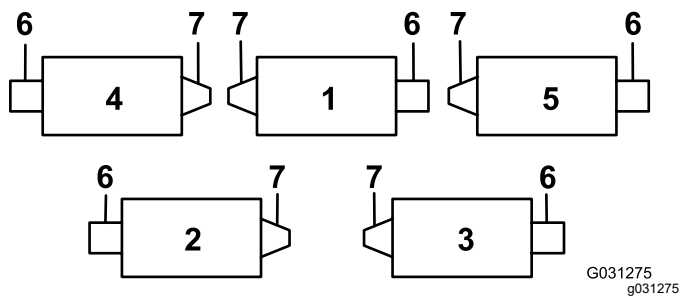
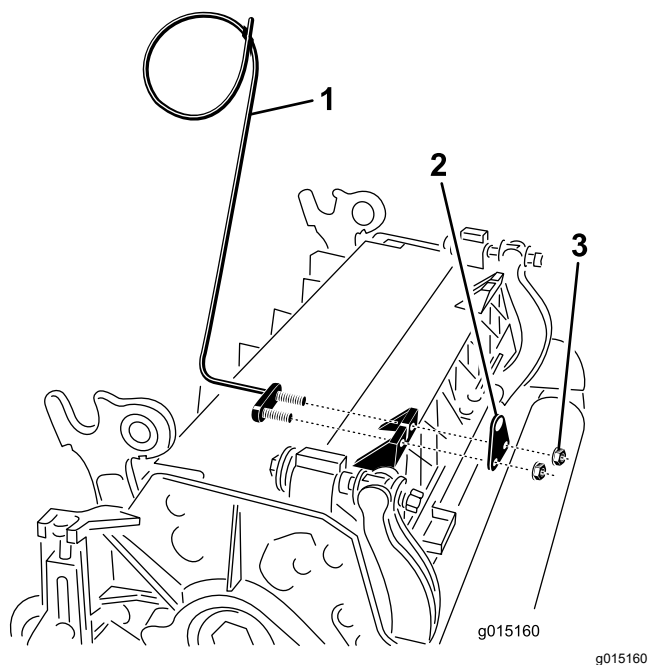
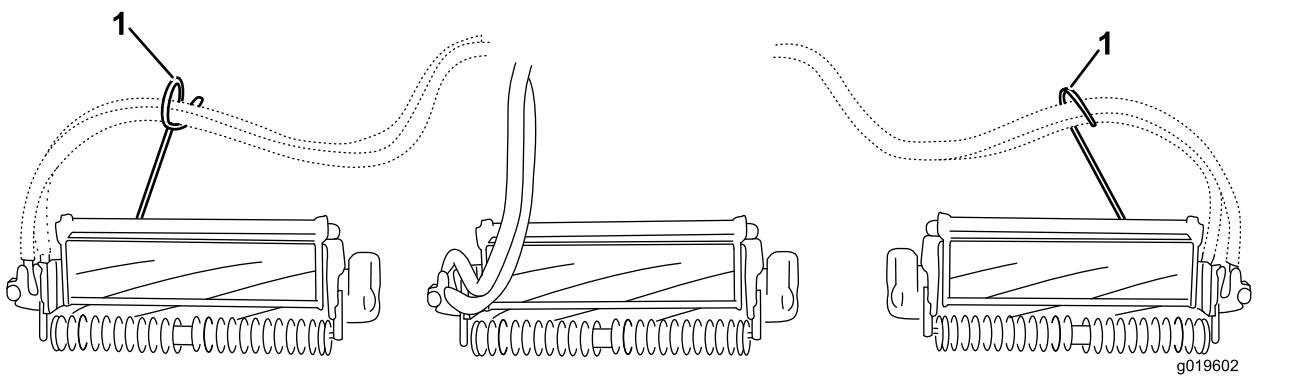

Figure 6
Figure 7
Figure 8
7. On cutting unit 4 (left front) and cutting unit 5 (right front), use the rod-bracket mounting nuts to install the hose guides to the front of the cutting-unit tabs. The hose guides should lean toward the center cutting unit (Figure 6, Figure 7, Figure 8).